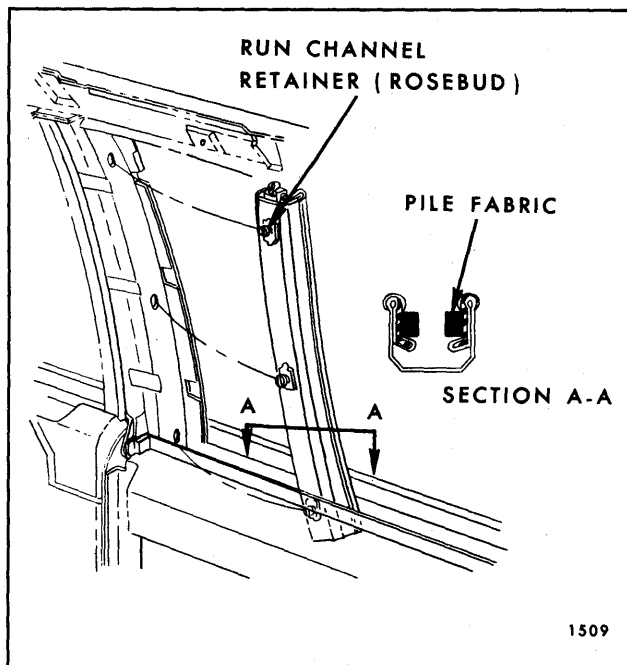

Fig. 7-9—Rear Quarter Window Front Glass Run Channels
3. On all styles, using a flat bladed tool, pry run channel from body pillar and remove run channel (Fig. 7-9).